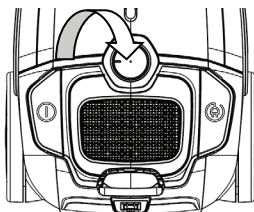

Fig. 5
Rotate the suction power control knob (13) (Fig 5).